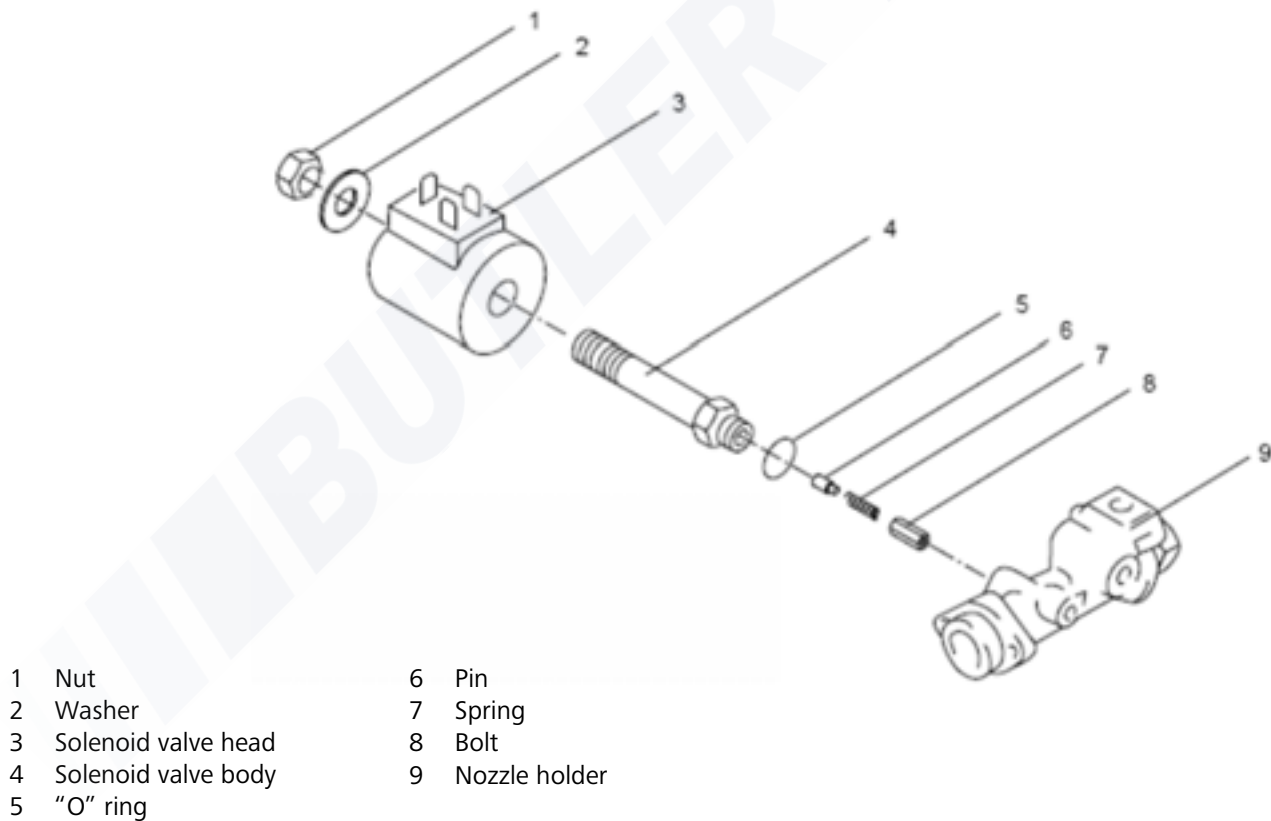

Fig. 914 Replacing solenoid valve
6. Remove nut (1, Fig. 914), take off solenoid valve head (3) and washer (2) and remove.
7. If necessary, screw off solenoid valve body (4) "o" ring (5), pin (6), spring (7) and bolt (8).
1. Place "o" ring (5, Fig. 914) on solenoid valve body (4).
2. Fit spring (7) and pin (6) in bolt (8).
3. Guide bolt with spring and pin into solenoid valve body (4).
4. Screw solenoid valve body (4) into nozzle holder (9).
6. Place solenoid valve head (3) on solenoid valve body and fasten with washer (2) and nut (1).